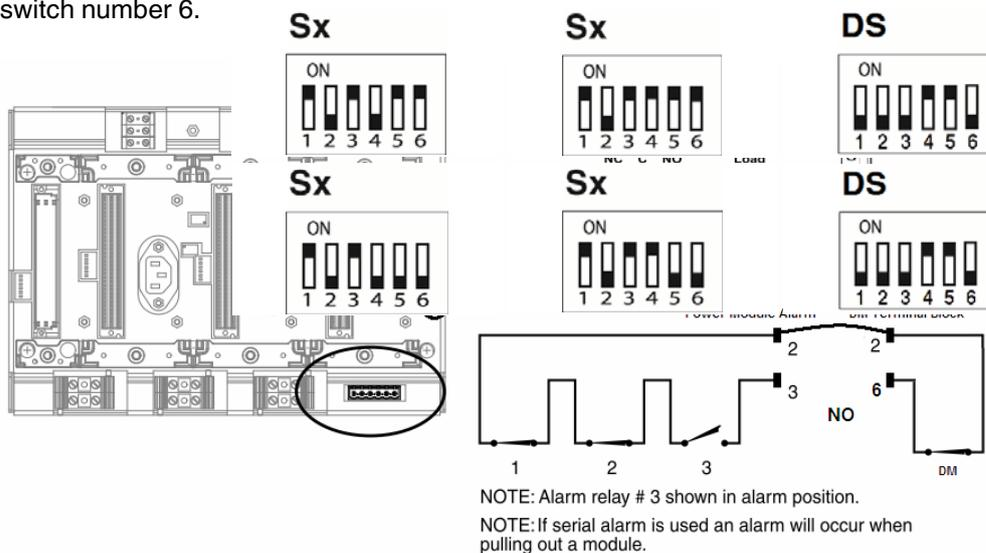
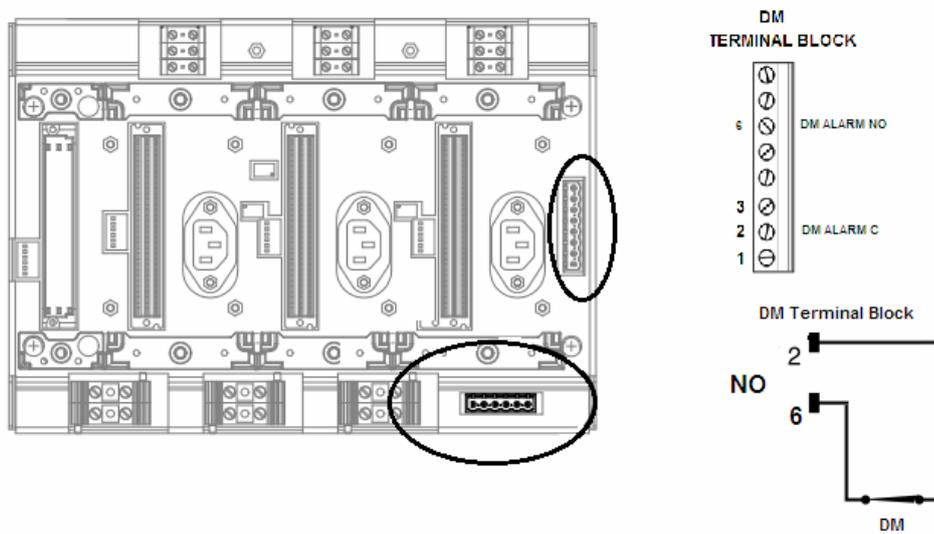

Figure 4.8 Serial Alarm (without Group Configurations)
Figure 4.9 Serial Alarm (with Group Configurations)
Refer to Figure 4.8. Connect in series the normally open (NO) alarm contacts on all power modules, and refer to Figure 4.9 for serial alarm DIP switch configuration.
See Figure 4.9. The wiring can be simplified if module group configurations are set up in the diagnostic module (see Section 5.3, Section 5.4, and Section 6.7.9). The relay opens under the same conditions that cause the individual power supply relays to open, and detect when modules have been inappropriately removed from the system.